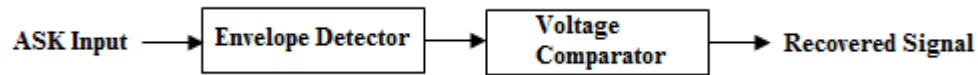

Figure 2: Block Diagram of ASK Demodulator
4. Design the Demodulator circuit according to ASK Demodulation block diagram shown in Figure 2 and Observe ASK Demodulated output and Trace it on trace paper, compare it with message signal.